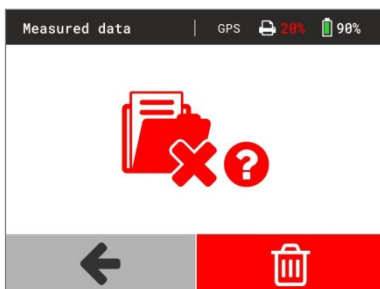

Figure 26
- ⇒ The menu on the left is displayed on the screen (Figure 26).